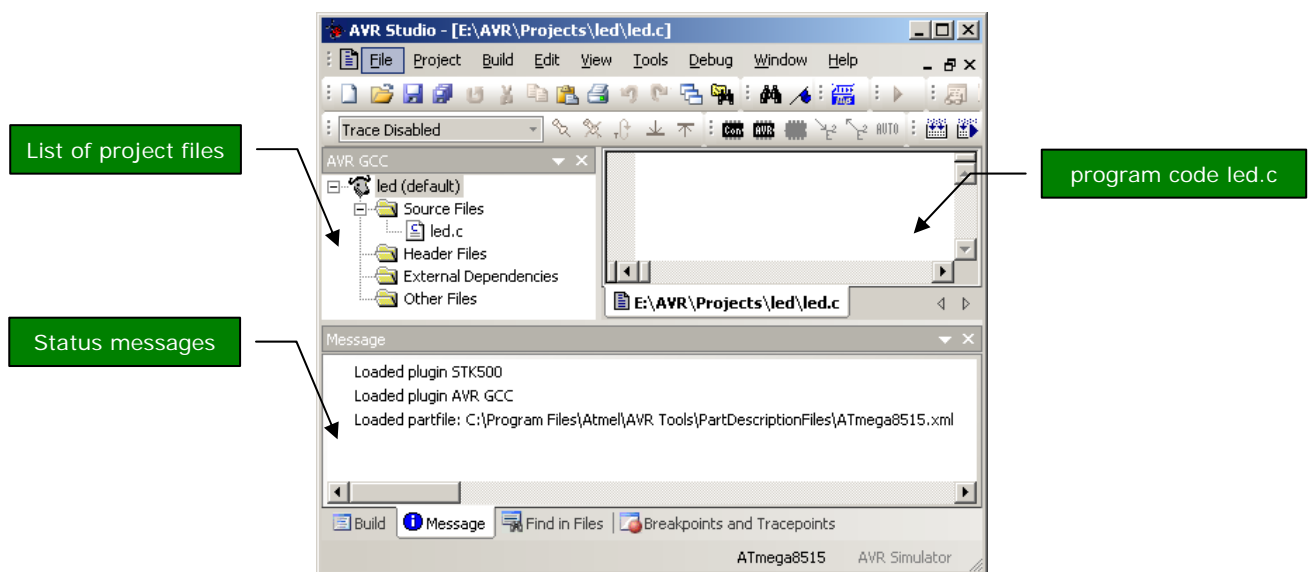

Figure 3: The AVR Studio with a project file open.
- A project file will be created and AVR Studio displays an empty file led.c (see Figure 3). Enter the C code shown in Figure 4. It is not important to understand the code at this stage, but you can do that by reading the C comments.